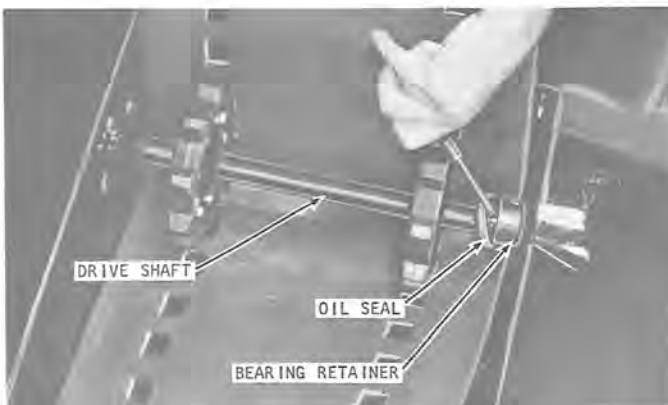

Figure 11
5. Using a screw driver, carefully pry the oil seals (figure 11) away from the ball bearings at each end of the drive shaft.